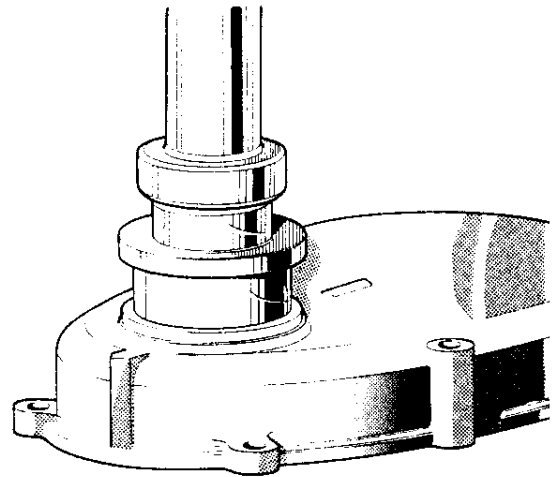

Figure 9 Extracting front cover oil seal
7. Extract the oil seal from the cover using special tool no. RT 7480 and drive handle part no. 550 (Figure 9).